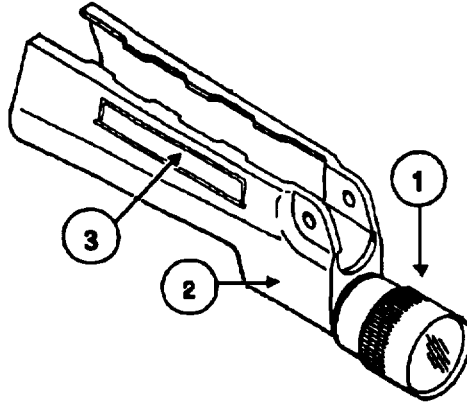

Figure 2-11. Haudguard And Tactical Light Assembly
a. The MP5N utilizes a Tactical Lighting System, Figure 2-11, which integrates [he light (1) and the handguard (2) into a single unit. Apply light finger pressure to the rubber covered pressure switch (3), located on the right side of the handguard, to activate the Tactical Lighting System. The light will remain on as long as pressure is maintained.